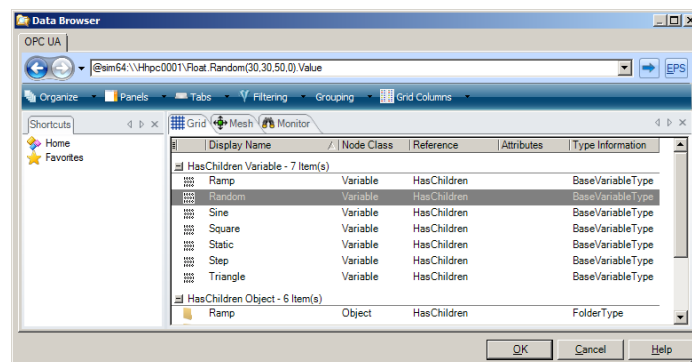

Figure 1 Data Browser
7. Click on the ellipsis button next to the Signal Name field to open the Data Browser and select: Home > OPC Classic Server > My Server > Simulations > Float > Random, then click in the signal name part of the data browser and change the period to 30, the minimum to 30, the maximum to 50, and the phase to 0 as shown in Figure 1.